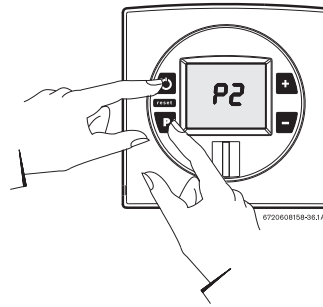

Fig. 58
- ▶ While holding the Program (P) button in, press the ON/OFF button to turn ON the heater (see Fig. 58). As soon as '188' flashes on the display, release the Program button. The display should now read P2. Press ' - ' button until "P1" appears on display.